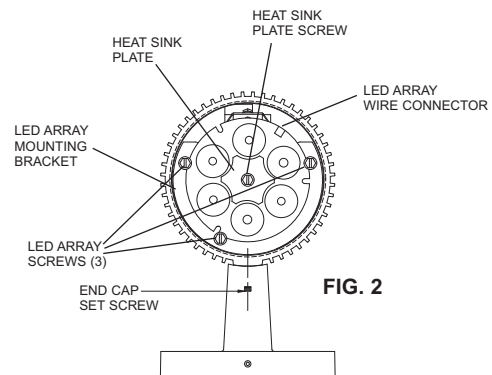

FIG. 2
2. Remove the lens assembly by rotating the end cap counter clockwise (Fig. 2).
3. Remove three LED array screws (Fig. 2). Keep screws for later assembly.
5. Disconnect power supply wires by disengaging the connector from the LED array wire connector (Fig. 2). Note: Firmly hold the LED array and gently pull wire by clasping the wire connector.
6. Remove the heat sink plate screw and heat sink plate to disengage the heat sink from the LED array (Fig. 2).
7. Secure the replacement LED array to the heat sink by replacing the heat sink plate and screw from step 5 (Fig. 2). Note: Make sure that the LED array wire connection is oriented away from the wall bracket as illustrated in Fig. 2.
8. Connect the power supply to the LED array and slide LED array assembly into fixture (Fig. 2).* Note: Hold the wire connector firmly when engaging with LED array connector. Ensure proper pin and guide slot orientation and secure firmly.
9. Secure the LED array assembly to the LED array mounting bracket with three screws from step 2 (Fig. 2).
5. Disconnect LED power supply wires by disengaging the connector from the LED array wire connector and the driver. Disconnect black and white power supply leads from the driver (Fig. 2).
10. Secure LED array to the mounting bracket with three screws from step 2.(Fig.2)